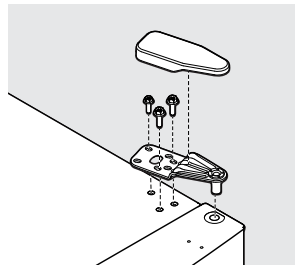

Figure 1
2. Remove the top hinge cover (some models--see Figure 1). For models without the hinge cover, go to step 3.